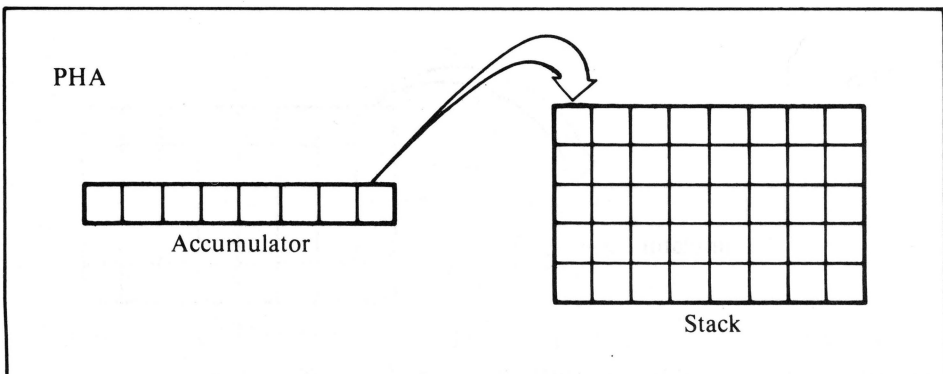

Figure 16-1. Push accumulator onto stack
- PHA — Push accumulator onto the stack; puts the current value in the accumulator onto the top of the stack (see Figure 16-1).